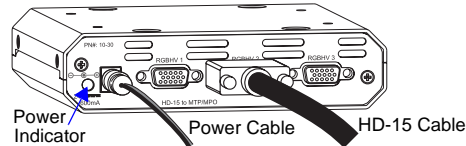

FIG. 3 Attach HD-15 and power cables
- Check EDID switch on front of TX to be sure that it remains set to the right (WP).
- For each source device, insert the HD-15 connector into the RGBHV (HD-15) jack on the rear of the TX (FIG. 3). The connector number corresponds to the channel number. For HD-15 pinout, see FIG. 6 on reverse.
- Insert the power plugs into the power jacks on the TX and RX (FIG. 3).